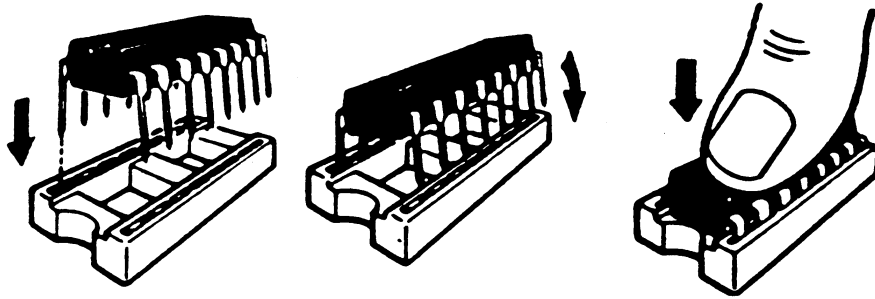

Figure 3-3 Installing the Chip
9. Align the pins on the chip with the corresponding holes in the socket, tilt the chip slightly to partially insert one side before the other (Figure 3-3).